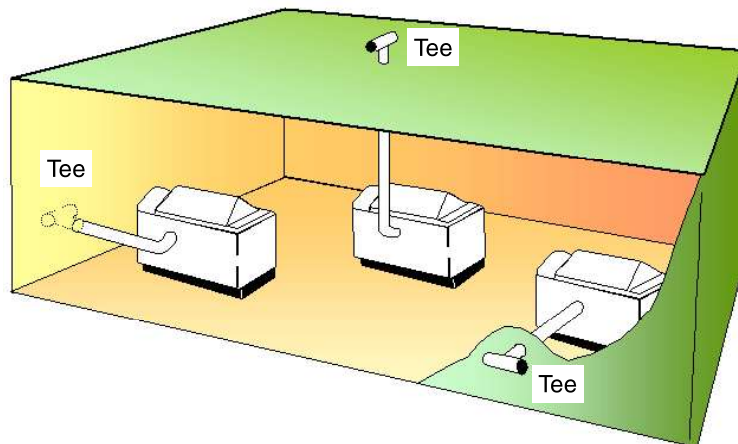

Figure 6.7e: Recommended venting.
- A "tee" is recommended at the end of the vent to reduce the risk of periodic back-pressure from the wind (Figure 6.7e).